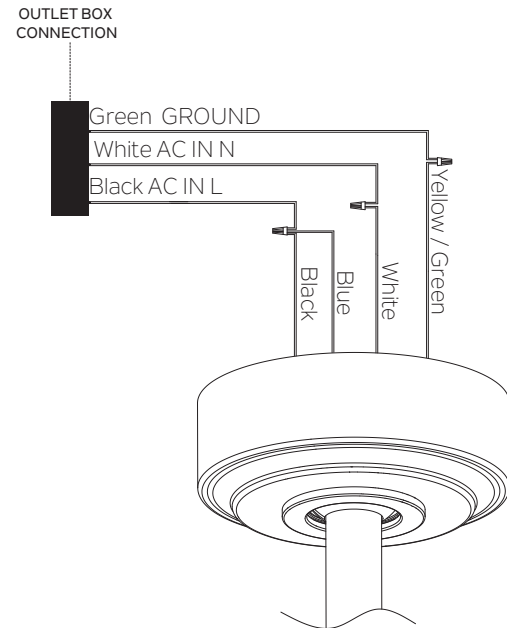

Fig. 13
- Step 1.** Connect the fan supply (black) wire and light supply (blue) wire to the household supply (black) wire as shown in **Figure 13**.